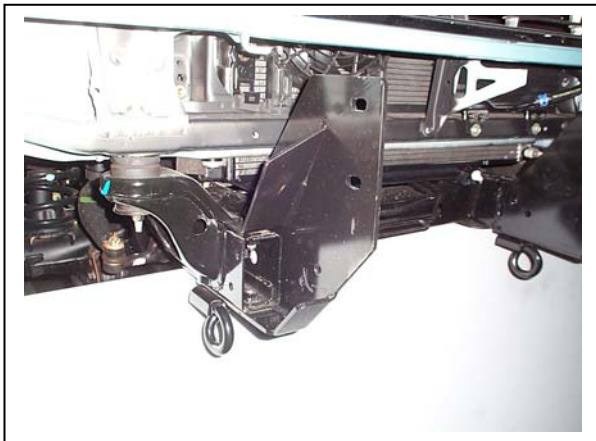

Figure 7 – Drivers side shown
11. Attach steel mounts (supplied) to the inside of chassis. Use M12 x 35 x 1.25 high tensile bolts (supplied) for top holes. Use ½ x 1 ½ bolt, nut and washers for round hole in side of mount. Use original bolts for slot hole in side of mounts. **FINGER TIGHTEN ALL BOLTS ONLY. See figures 7 and 8.** Do not install lower chassis bolts yet.